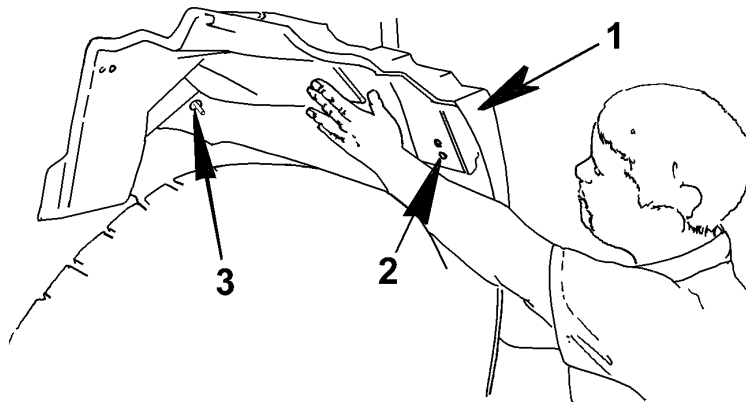

Figure 32 Fender Extension Installation
With hood in the tilted position, locate the fender extension mounting stud on the cab lower forward structure (Item 3, Figure 32).
1. Align the fender extension mounting hole on the mounting stud (Item 3, Figure 32), and install mounting nut. Hand tighten.